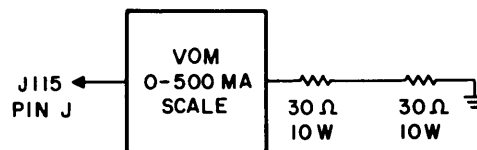

Figure 5-3. Power Supply Board Test Setup
a. POWER SUPPLY BOARDS Z303 AND Z304 (see figure 5-3). Check the power supply boards as follows:
- (1) Remove RF output card Z115.
- (2) Plug in ac line cord, STANDBY indicator shall illuminate amber.
- (3) Position ON/STANDBY switch to ON. POWER indicator shall illuminate red and STANDBY indicator shall extinguish.
- (5) Connect VOM between J304 pin G (ground) and J304 pin E. Voltmeter shall indicate +20 volts.
- (6) On board Z303, connect VOM to J303 pin E. Voltmeter shall indicate approximately +20 vdc.
- (7) Connect VOM to J303 pin A. Voltmeter shall indicate approximately +40 vdc.
- (8) Connect VOM between J303 pin F and ground. Voltmeter shall indicate 12.0 vdc.
- (9) Remove VOM from J303 pin F and connect oscilloscope. Maximum ac ripple shall not exceed 5 mv.
- (10) Connect VOM between J303 pin 4 and ground. Voltmeter shall indicate 24.0 vdc.
- (11) Remove VOM from J303 pin 4 and connect oscilloscope. Maximum ac ripple shall not exceed 2 mv.
- (12) Connect VOM between J301 pin E and ground. Voltmeter shall indicate +30 vdc  $\pm$ 1 vdc.
- (13) Position ON/STANDBY switch to STANDBY.
- (14) Position METER switch to Q1.
- (15) Connect VOM to J115 pin J as shown in figure 5-3.
- (16) Adjust potentiometer R106 (located at rear of METER switch) for equal indications on the MMX MONITOR meter and the VOM.